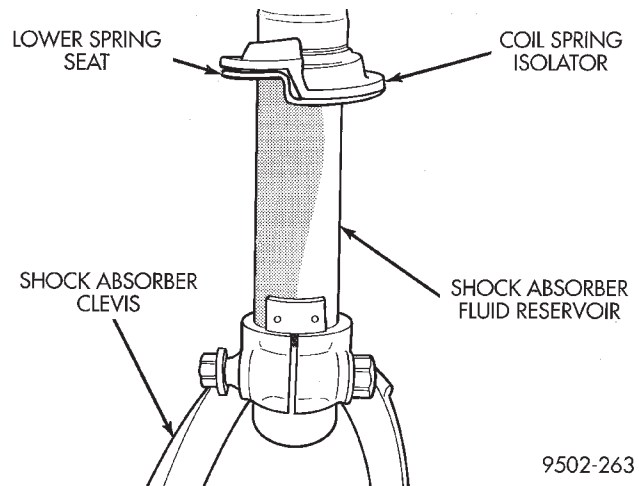

Fig. 96 Coil Spring Lower Isolator
(14) Remove the coil spring isolator (Fig. 96) from the lower spring seat on the shock absorber assembly.
(2) Install the coil spring isolator (Fig. 96) on the lower spring seat of the shock absorber assembly. Isolator must be positioned on lower spring seat as shown in (Fig. 96).